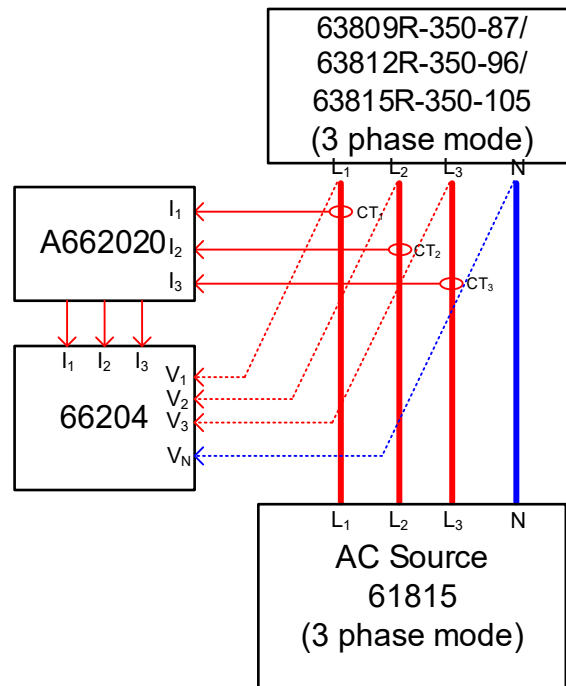

Figure 3-5
Connect the Regenerative AC Electronic Load, AC Source, Power Analyzer, and Current Transducer as shown in Figure 3-5.
- Connect the Regenerative AC Electronic Load, AC Source, Power Analyzer, and Current Transducer as shown in Figure 3-5. Use the Power Analyzer to measure the AC Iac current.
- Connect the Regenerative AC Electronic Load, AC Source, Power Analyzer, and Current Transducer as shown in Figure 3-5. Use the Power Analyzer to measure the apparent power S.